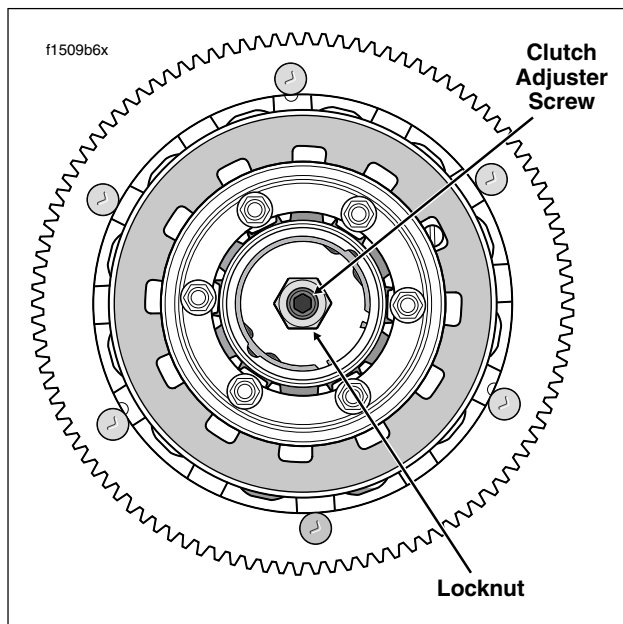

Figure 1-8. Clutch Assembly
4. See Figure 1-8. Loosen locknut on clutch adjuster screw. To take up all free play in push rods, turn screw inward (clockwise) until lightly seated.